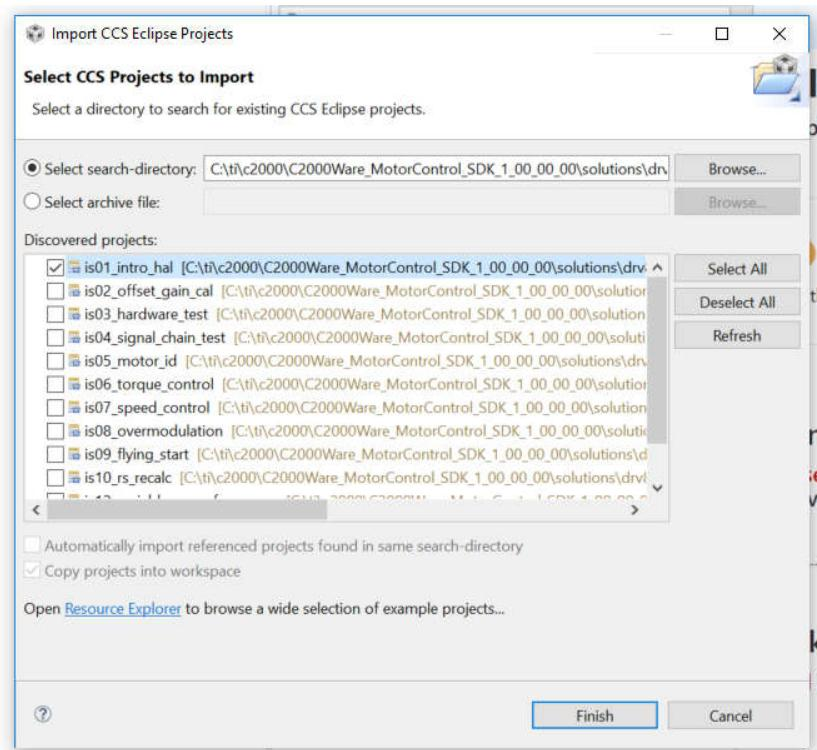

Figure 4: Import Project “is01_intro_hal” to CCS.
3. The resulting window displays a list of discovered projects within the `f28004x\` folder. From this window, select the `is01_intro_hal` project as **Figure 4**, and then select “Finish”